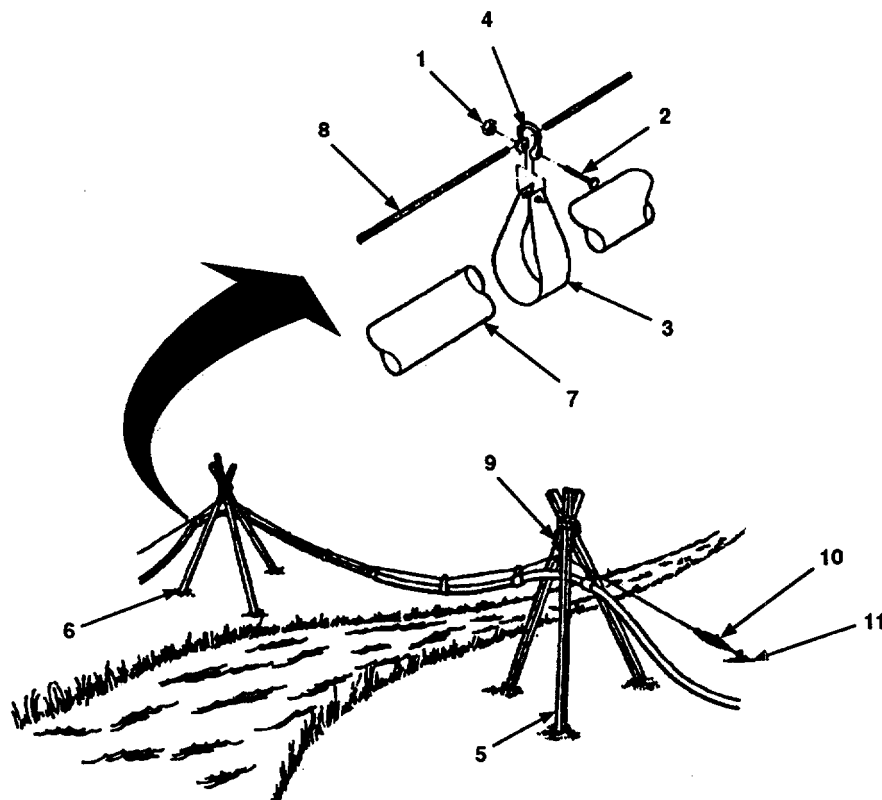

Figure 2-65. Disassembly of Suspension Device.
- d. Remove nut (Figure 2-65, 1), bolt (2), saddle (3), and shackle (4) from each saddle assembly to outside of upline tripod (5).
- e. Install bolts (2) through saddles (3) and shackles (4).
- f. Install nut (1) on bolt (2). Tighten nut (1).
- g. Repeat steps d through f for each saddle assembly to outside of downline tripod (6).
- i. Pull hose (7) across span. Saddles (3) should drag with hose (7) along wire rope (8).
- j. As saddles (3) arrive at pulley block (9) on tripod tower (5), perform steps d through f.
- k. After all saddles (3) have been removed and hose (7) has been retrieved, loosen turnbuckles (10) to release tension on wire rope (8).
- l. Remove turnbuckles (10) from ends of wire rope (8).
- m. Remove turnbuckles (10) from stakes (11) and remove stakes (11).
- n. Pull wire rope (8) across span and coil it.
- o. Remove two nuts (Figure 2-39, 4), clamps (5), U-bolts (6) and thimble (3) from each end of wire rope (Figure 2-65, 8).
- q. Remove pulley blocks (Figure 2-65, 9) from tripods (5 and 6).